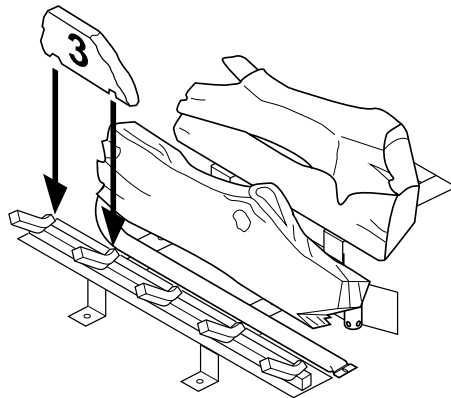

Figure 53 - Installing Log No. 3
4. Place log #3 (left piece) onto the front left part of the grate. Make sure it is seated properly over the prong of the grate as shown in Figure 53.